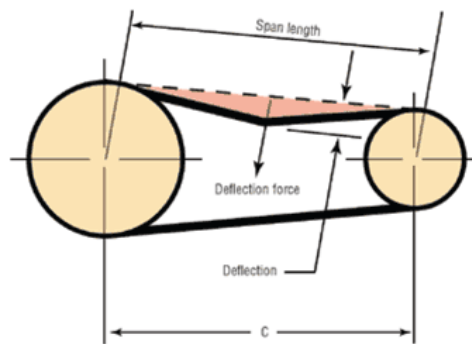
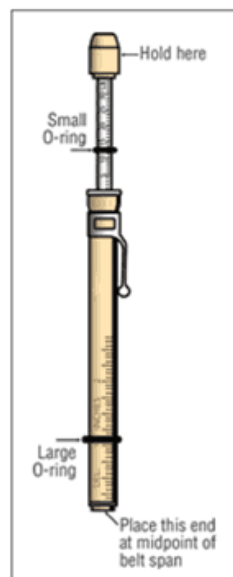

FIGURE 1 . Belt-span length and deflection force.
FIGURE 2. Detail of a tensiometer.
2. Measure the span length of the belt (**Figure 1**). Span length is the distance between the sheaves. The desired belt deflection is $\frac{1}{64}$ in. for every 1 in. of belt span. For example, if the span length is 32 in., the desired belt deflection is $\frac{1}{2}$ in.
3. Set the large O-ring on the tensiometer to the desired deflection determined in Step 2 (**Figure 2**).
4. Set the small O-ring on the tensiometer to the zero mark (Figure 2).
5. Hold the tensiometer as indicated in Figure 2, and press the opposing end of the tensiometer to the midpoint of the belt span, as indicated in Figure 1. Press down on the tensiometer (deflecting the belt) until the large O-ring is even with the original location of the belt. For a single-belt drive, the tensiometer should be depressed until the large O-ring is lined up with the bottom of the straight edge placed on the outside rims of the two sheaves. For a multiple-belt drive, depress the tensiometer until the large O-ring is even with the top of the next belt.